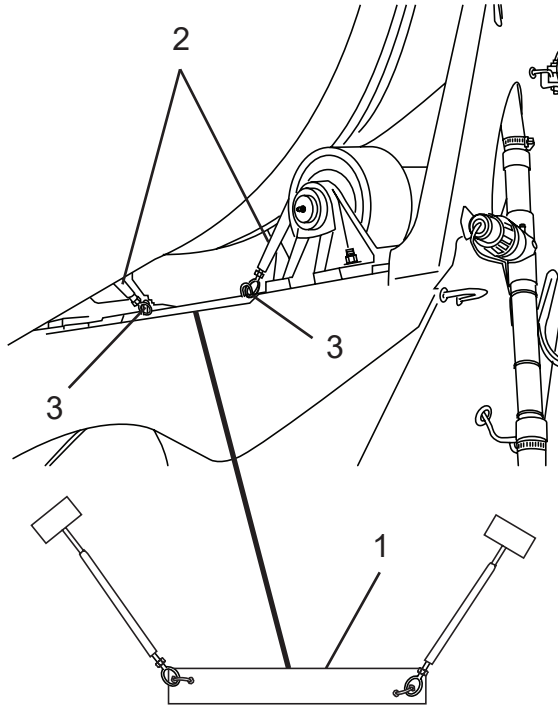

Figure 7
17. Place the dual turnbuckle wedge assembly base (Figure 7, Item 1) on the rear pedestal. Make sure the wedge assembly base has a flat, clean surface. Extend the turnbuckles (Figure 7, Item 2) so the wedges are firmly in place between the drum roller track and rollers. Evenly snug up the turnbuckles one turn or more as needed to prevent possible drum rotation.
18. Tighten the turnbuckle jam nuts (Figure 7, Item 3) to secure the wedges in place.